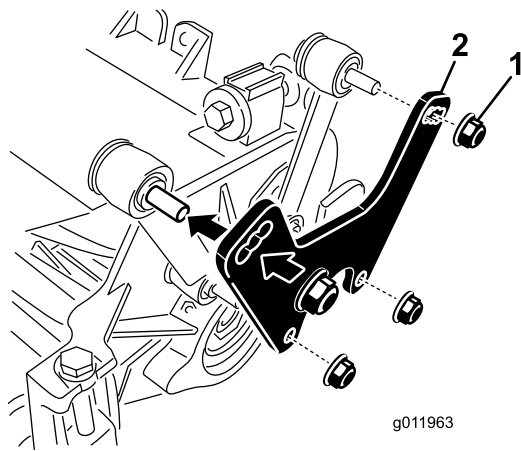

Figure 9
1. Remove the nuts and washers securing the lift links to the cutting-unit side plate and carrier frame (Figure 9).